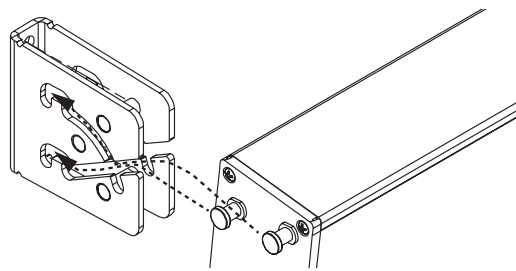

Figure 4
- ⑤ **Please Note: This step may require more than one person, depending on the size of the FlexWave.** Install the FlexWave into the brackets. Carefully hold the light shelf with one hand on the back extrusion and one hand on the front of the unit. Hold approximately 30 degrees from vertical, and sliding the mounting studs into the mounting slots (see Fig. 4). Make sure they are set in place. Verify units are installed level. **Caution: Take care to avoid placing too much pressure or twisting the light shelf.**